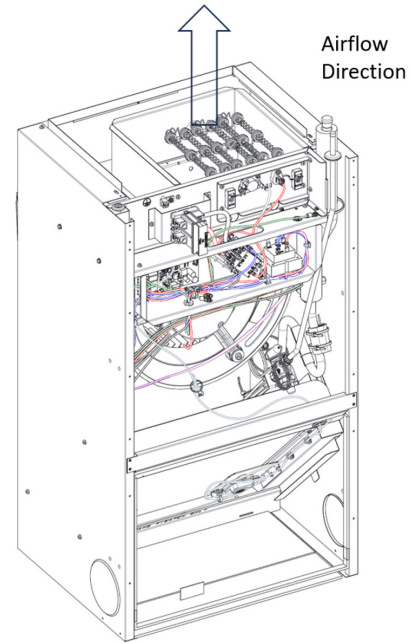

Figure 4
7. Secure the electric heat face plate using the screws removed in Step 4. Use caution to not bend or damage the electric heating elements, the limit switches or fuses during this process. See below Figures 4 and 5